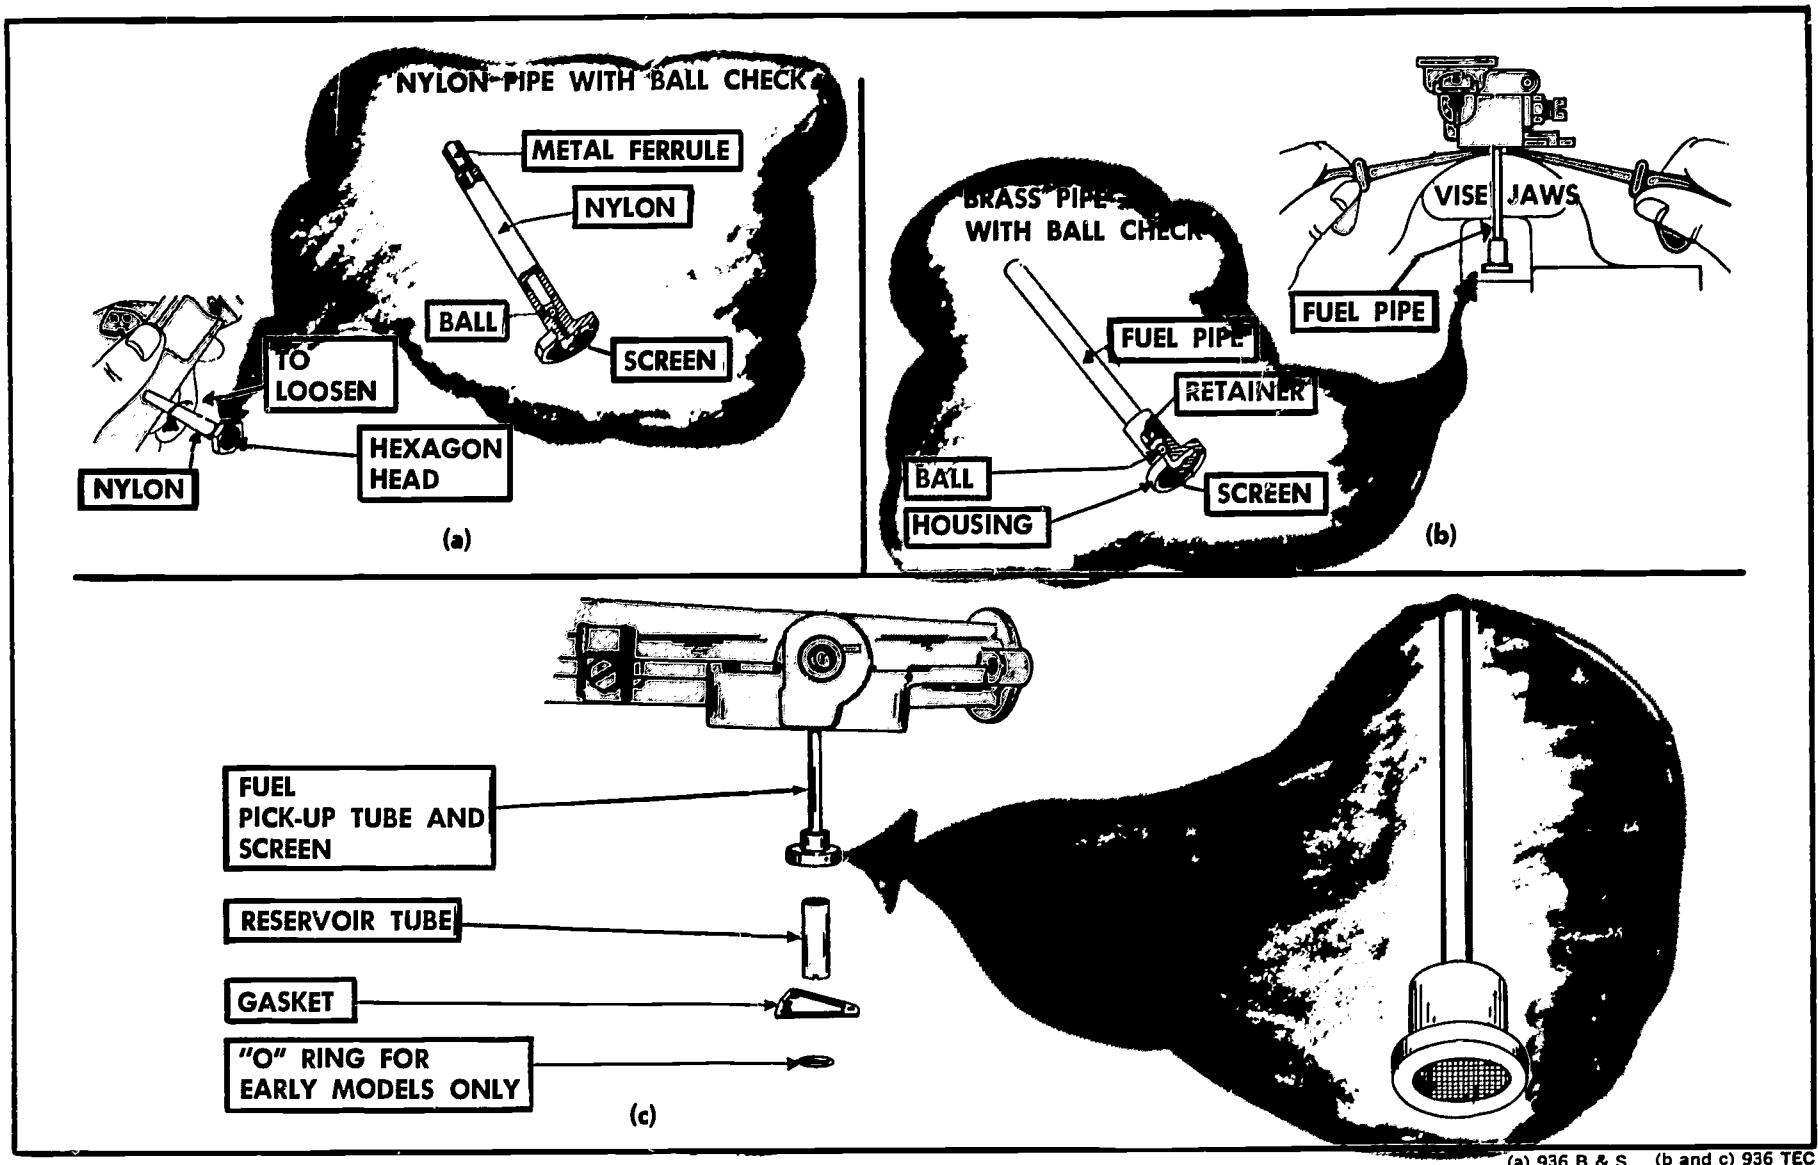

FIGURE 154. Types of fuel strainers and pipes on suction-lift type carburetors. (a) Nylon pipe. (b) and (c) Metal pipes and strainers.
6. *Remove fuel strainer(s) and pipe(s) (Figure 154).*